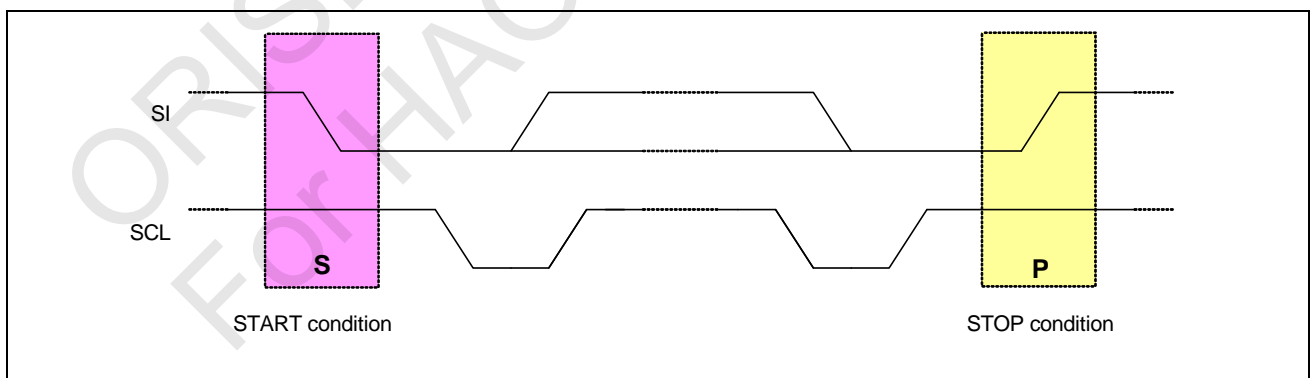

Figure 5-6 START and STOP conditions on I²C I/F
The START condition (S) is a HIGH to LOW transition on SI wire when SCL at HIGH period. A LOW to HIGH transition on SI wire at the SCL is HIGH that is defined as the STOP condition (P) (see Figure 5-6). When the I²C bus is not busy, both SI and SCL are to keep HIGH.